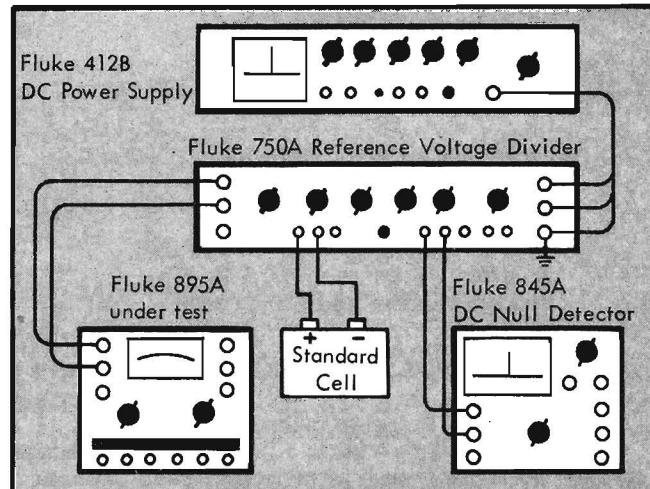

Figure 4-3. SOURCE FOR TEST VOLTAGES
- Equipment connection is illustrated in Figure 4-3. Connect the 845A to the null detector terminals of the 750A, and connect a standard cell to the standard cell terminals of the 750A.